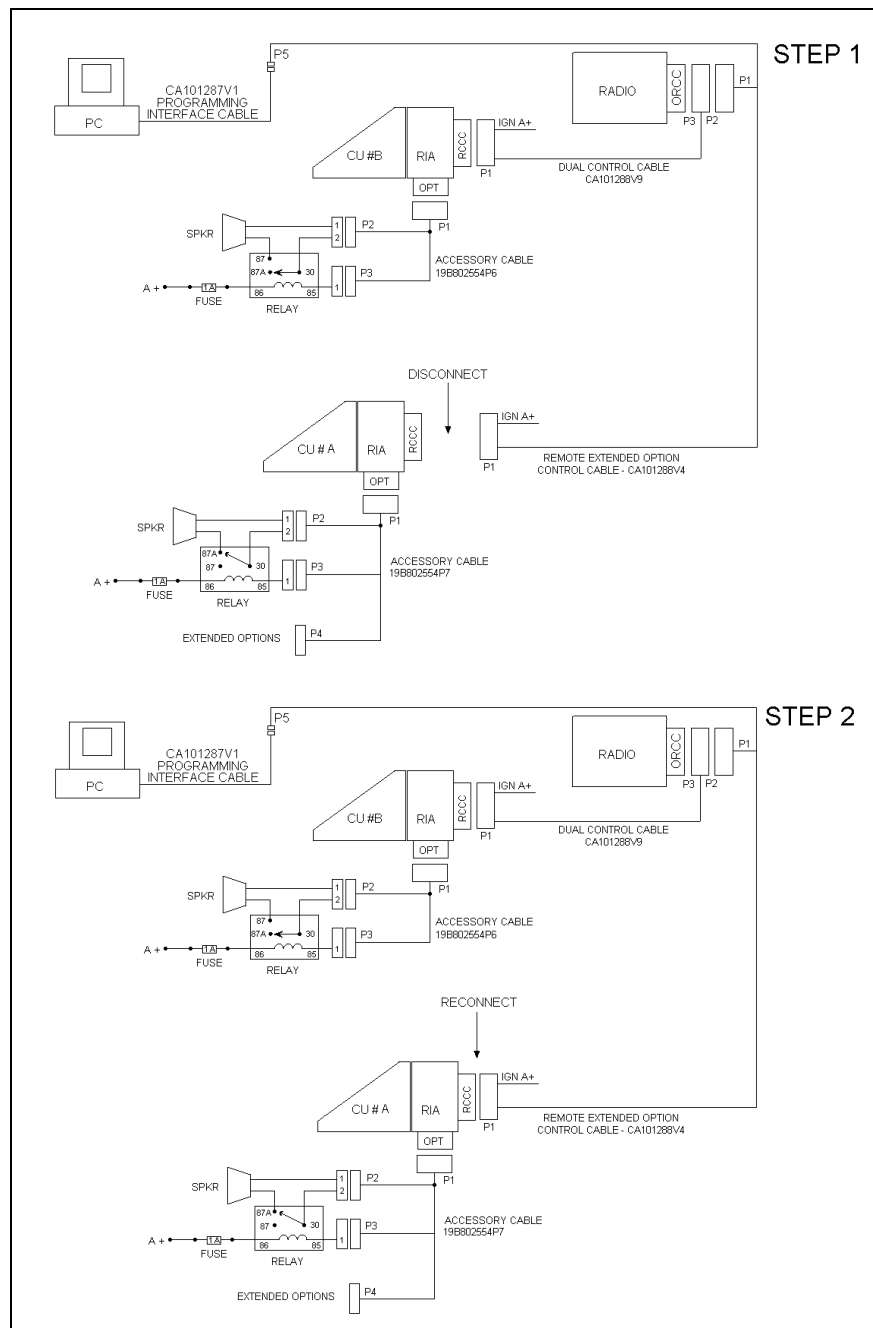

Figure 10-9: M7100^{IP} Field Programming – Dual Control Unit Remote/Remote Mount Configuration
1. Configure the M7100^{IP} Remote Mount Radio per ProGrammer setup as shown in Figure 10-9, Step 1 with Control Unit #A disconnected. Program the radio with the control configurations shown in Step 1 of “Pre-Installation Programming Procedure with ProGrammer – Remote Mount” and adjust as necessary for the specific application.
2. Now configure the Remote Mount Radio and Auxiliary Control Unit per ProGrammer setup as shown in Figure 10-9, Step 2, with Control Unit #A. Program the configurations shown in Step 2 of “Pre-Installation Programming Procedure with ProGrammer – Remote Mount” and adjust as necessary for the specific application.